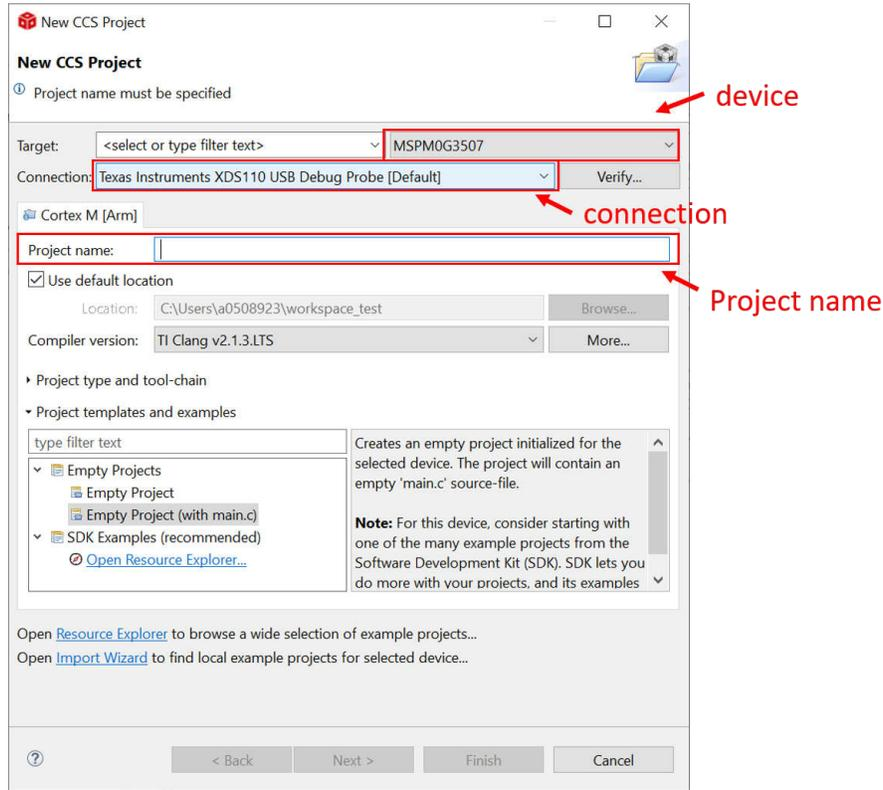

Figure 2-19. Create a New Project in CCS
- If users want to create a new project, then go to file--> new-->CCS project. There are two important items that need to be done. The first one is to choose MSPM0 device and the other one is to choose the connection, as shown in Figure 2-19. Then, the program can be created after project name is added and press finish button. TI recommends to find the MSPM0 SDK example, which introduces how to use CCS in Section 2.2.4.